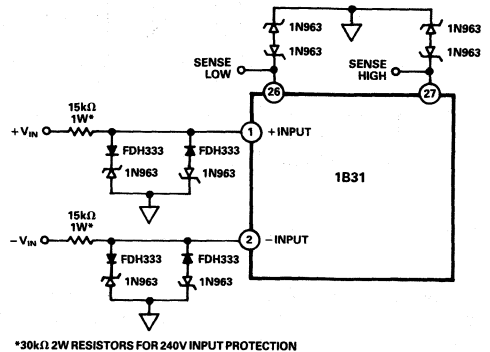

Figure 7. 115V Input Protection for 1B31
**Input Protection:** The differential inputs of the 1B31 can be protected from accidental shorts to power line voltages (115V rms) by the circuit shown in Figure 7. The back-to-back diodes clamp the inputs to a maximum of  $\pm 12.5V$  and were selected for low leakage current. The 15k $\Omega$  resistors in series with the inputs will degrade the noise performance of the 1B31 to 4.2 $\mu$ V p-p in a bandwidth of 0.1Hz to 1kHz. For six-wire load cells in harsh environments the additional protection for the sense inputs shown in Figure 7 is recommended.